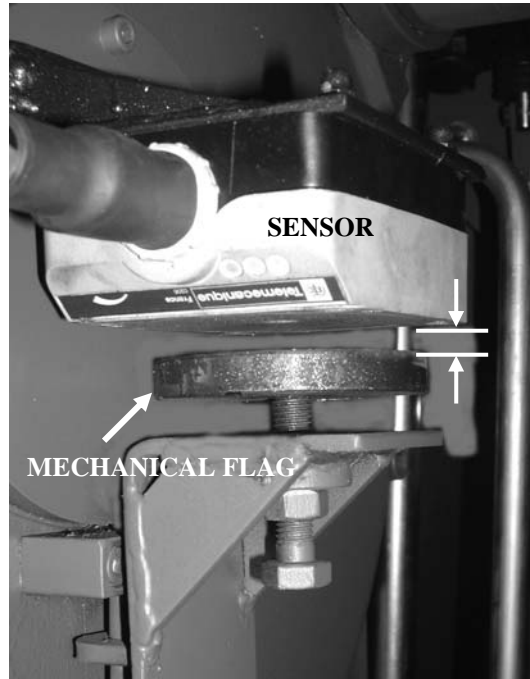

Figure 1 Distance Measurement
- j.** Check that the mechanical flag gap is set to 19 mm ± 2 mm between the flag and the distance sensor (see Figure 1). Adjust flag distance as required.